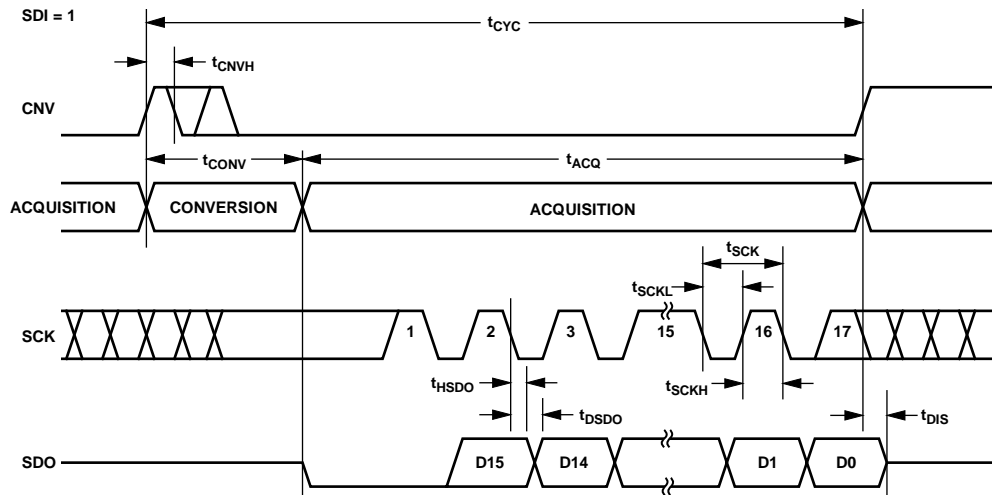
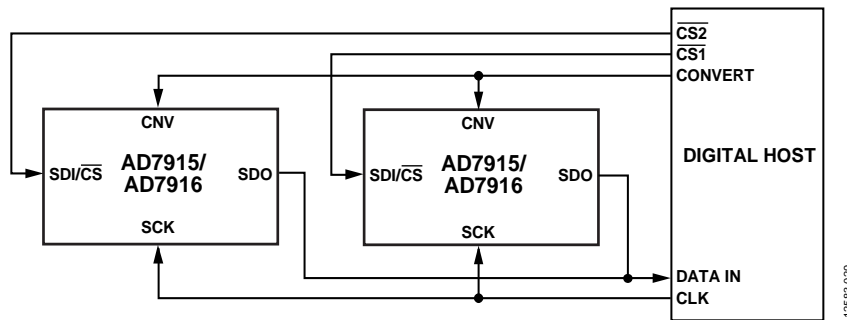
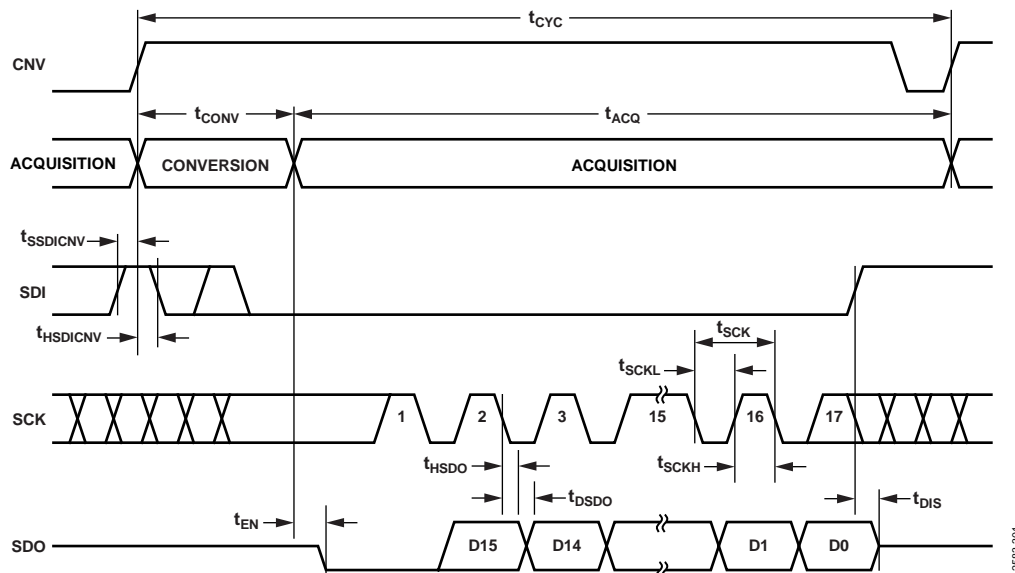
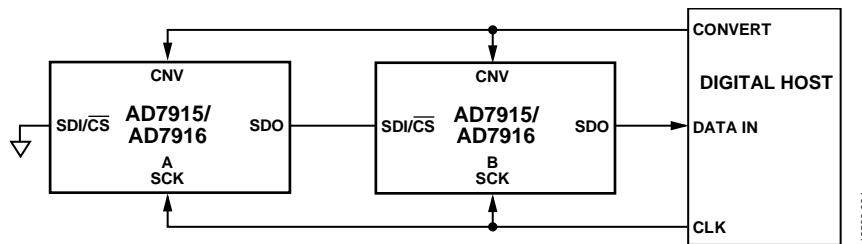

Figure 37. 3-Wire \overline{CS} Mode with Busy Indicator Serial Interface Timing (SDI High)
Figure 38. CS Mode Without Busy Indicator, 4-Wire Connection Diagram
Figure 41. 4-Wire CS Mode with Busy Indicator Serial Interface Timing
Figure 42. Chain Mode Without Busy Indicator Connection Diagram
- in $\overline{\text{CS}}$ mode if CNV or SDI is low when the ADC conversion ends (see Figure 38 and Figure 42).
The connection diagram is shown in Figure 37, and the corresponding timing is given in Figure 38.
The connection diagram is shown in Figure 41, and the corresponding timing is given in Figure 42.